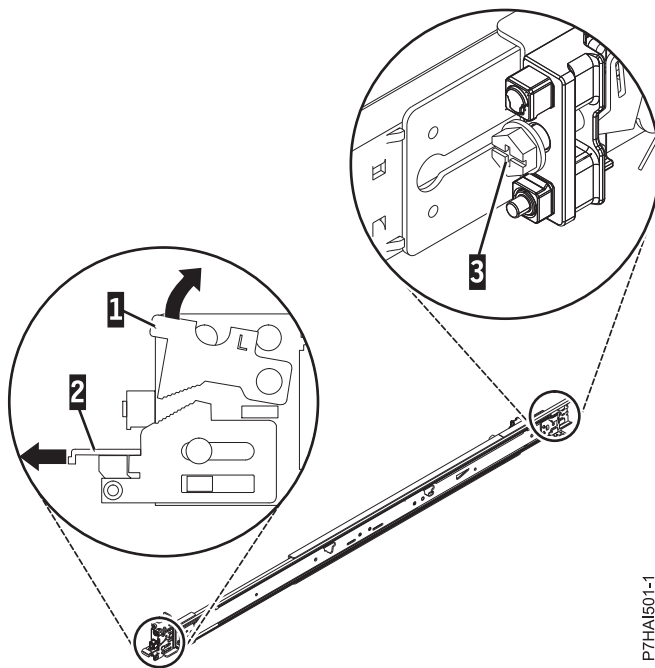

Figure 2. Opening the front latch and removing the rear screw
2. Push up on the locking tab (1) on the front, and pull out the front latch (2) at the front of the rail. Then, remove the screw from the rear of the rail (3). For details, see Figure 2.